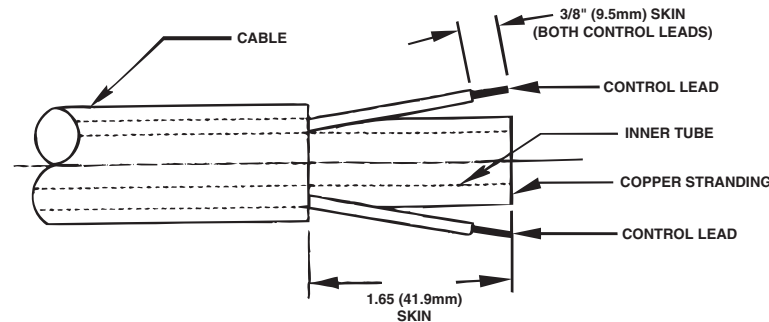

Figure D.3
- h) Cut off the damaged section of cable and strip off the outer jacket as shown in Figure D.3. Be careful not to cut the insulation on the control wires while stripping jacket. Strip red and white control leads 3/8” (9.5mm) from the end.